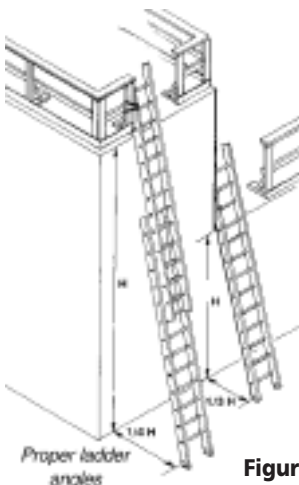

Figure 2
- Proper Ladder Angles:** One foot (1'0") out for every four feet up (4'0") (see figure 2).